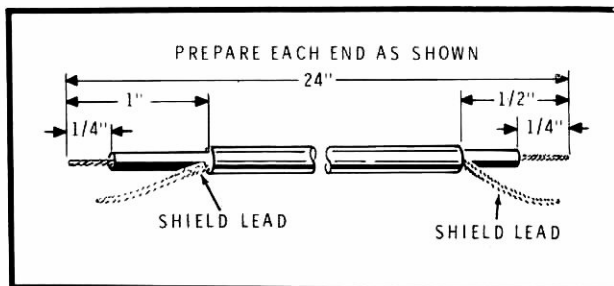

Figure 3-4
- ( ) Prepare a 24" shielded test cable as shown in Figures 3-4 and 3-5. NOTE: Install the plug temporarily, as you may need to remove it and reinstall it later.